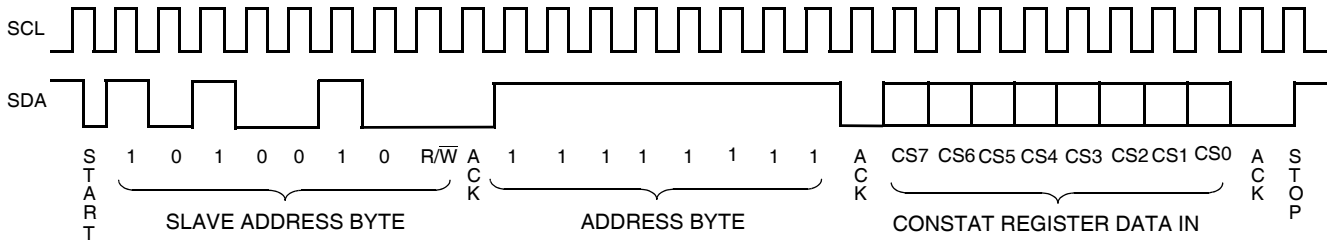

FIGURE 18. CONSTAT REGISTER WRITE COMMAND SEQUENCE
Writes to the WEL bit do not cause an internal high voltage write cycle. Therefore, the device is ready for another operation immediately after a STOP condition is executed in the CONSTAT Write command sequence (See Figure 18).
- After a successful write operation to any bits of the CONSTAT register has been completed (See Figure 18).
The CONSTAT register is accessed using the Slave Address set to 1010010 (Refer to Figure 4.). Following the Slave Address Byte, access to the CONSTAT register requires an Address Byte which must be set to FFh. Only one data byte is allowed to be written for each CONSTAT register Write operation. The user must issue a STOP, after sending this byte to the register, to initiate the nonvolatile cycle that stores the BP1, BP0, POR1 and POR0 bits. The X9520 will not ACKNOWLEDGE any data bytes written after the first byte is entered (Refer to Figure 18.).